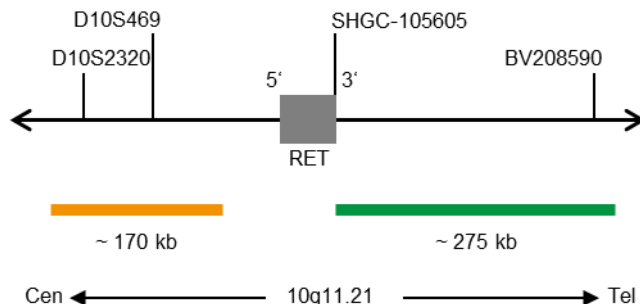

Fig. 1: SPEC RET Probe map (not to scale)
- ZyGreen (excitation 503 nm/emission 528 nm) labeled polynucleotides (~10.0 ng/ $\mu$ l), which target sequences mapping in 10q11.21\* (chr10:43,626,274-43,902,346) distal to the RET breakpoint region (see Fig. 1).
- ZyOrange (excitation 547 nm/emission 572 nm) labeled polynucleotides (~4.5 ng/ $\mu$ l), which target sequences mapping in 10q11.21\* (chr10:43,340,888-43,510,171) proximal to the RET breakpoint region (see Fig. 1).